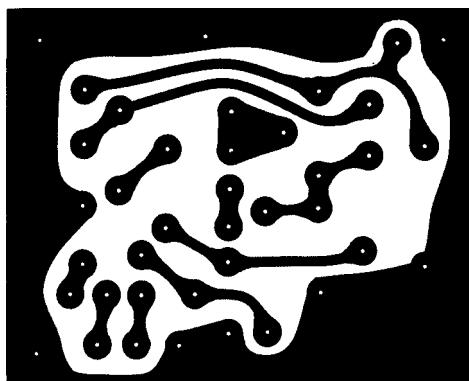

Figure 1 The tool pattern of the PCB – looking from the track side
1. PCB. The plain side is the *component side* and the soldered side is the *track side*. **Figure 1** shows the track side full size. Make the PCB from the pattern given in Figure 1. Otherwise, build the circuit on a matrix board.